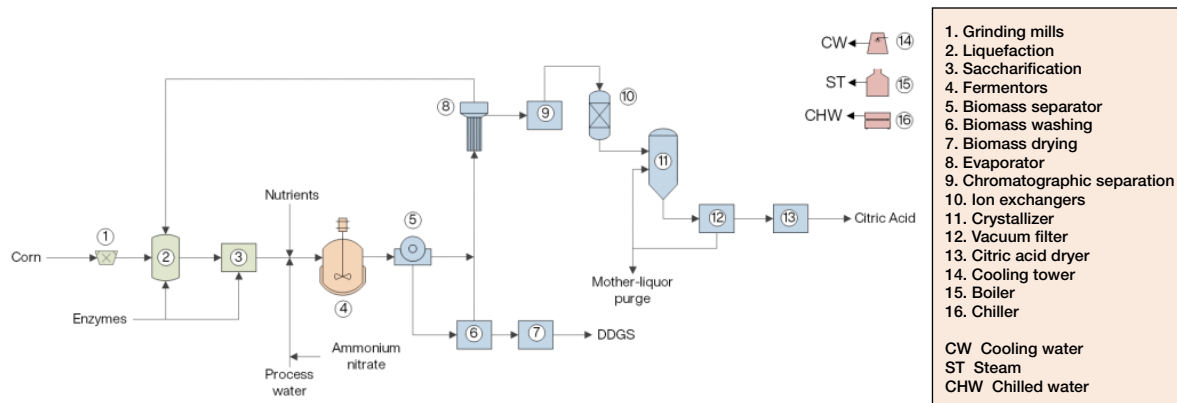

FIGURE 2. The diagram shows a process for making citric acid by fermenting corn sugars
(2) fermentation; and (3) products treatment (Figure 2).